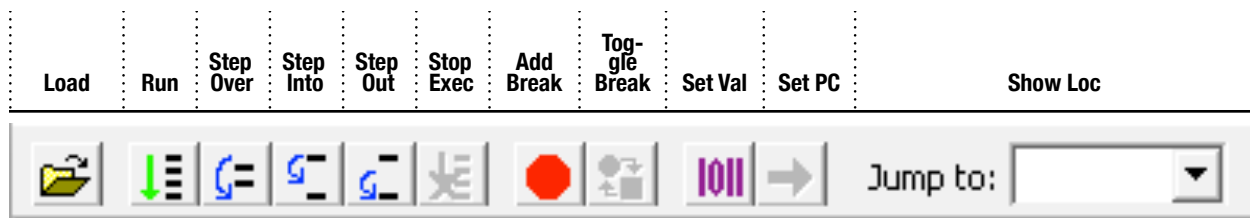

Figure 4: LC-3 Simulator: Simulator Buttons
- Figure 4 shows the 5 groups of controls at the top of the simulator window.